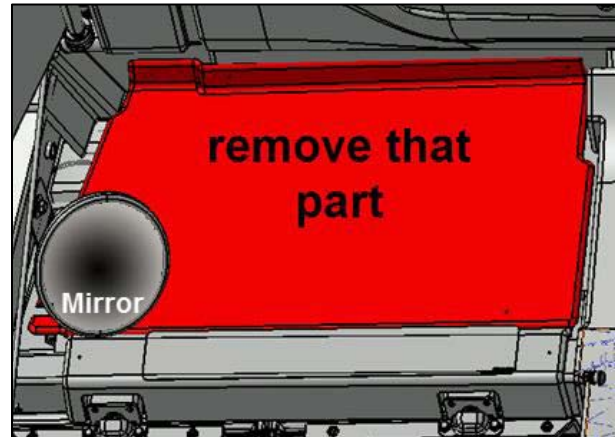

Figure 1: Access panel removal from inside.
- 1) Remove inside panel above entrance door.(Figure 1)